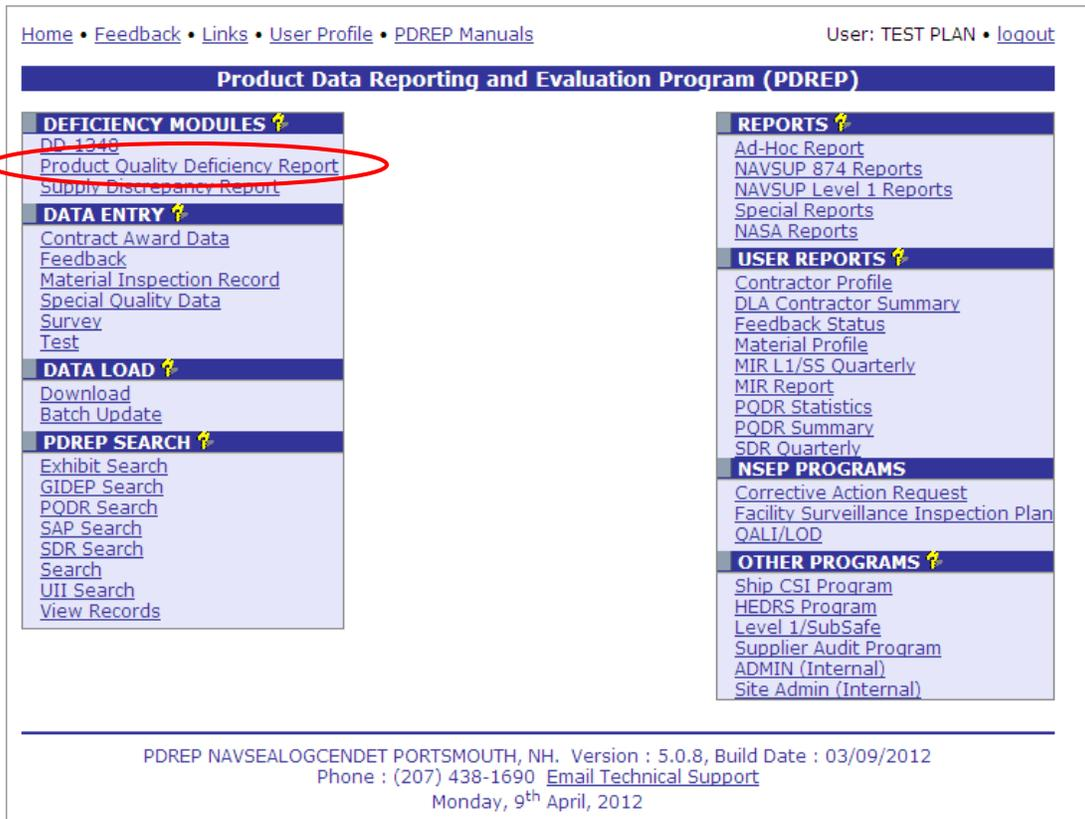

Figure 1.6
- i. After successfully logging in, the PDREP Main Menu (Figure 1.6) will display.
Once you have logged in the PDREP Home page (Figure 1.6) will display. You may not see all of the options listed depending on your level of access.